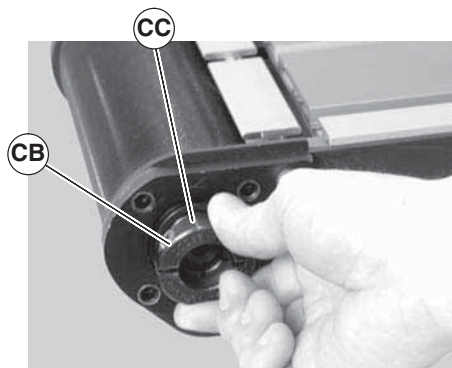
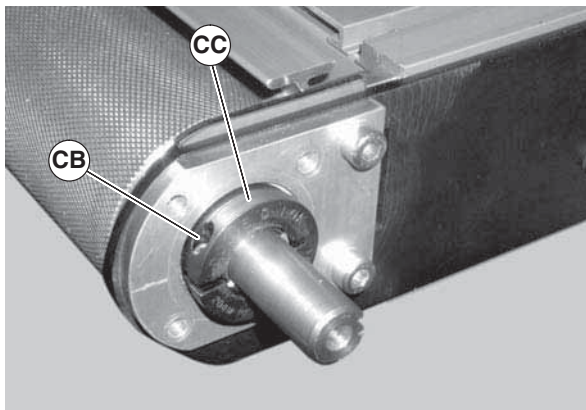

Figure 59
Figure 60
4. Loosen the bearing collar set screw (Figure 59, item CB) and remove bearing collar (CC). Repeat on drive shaft side of pulley (Figure 60, item CB & CC).